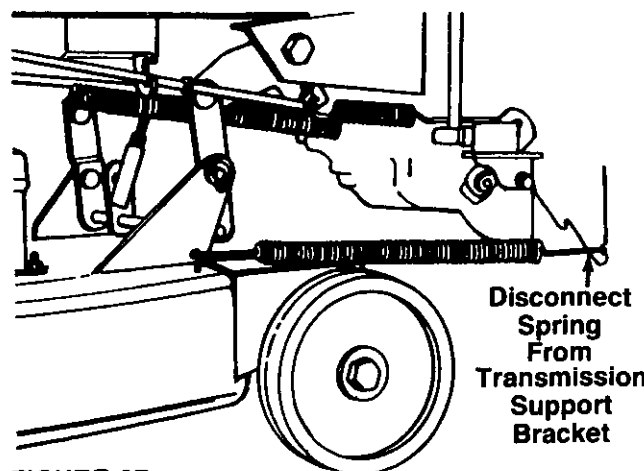

FIGURE 27.
3. Disconnect the spring from the transmission support bracket. See figure 27.